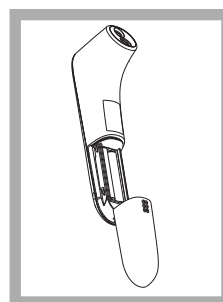

Figure 10
3. Remove battery and install 2 new AAA alkaline batteries as shown in Figure 10.